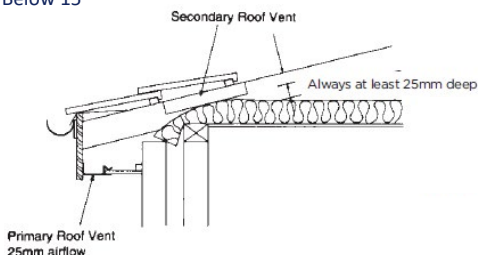

Fig. 3
- With a pitched roof where the roof space contains living accommodation and part of the ceiling and insulation follow the same line as the rafters a free airflow is required which is equivalent to a continuous 25mm opening (25,000 mm² per metre run). See Fig. 3
- With a pitched roof where the roof space contains living accommodation and part of the ceiling and insulation follow the same line as the rafters a ventilation channel at least 25mm deep must be maintained between the roof insulation and the underside of the roof covering. See Fig. 3